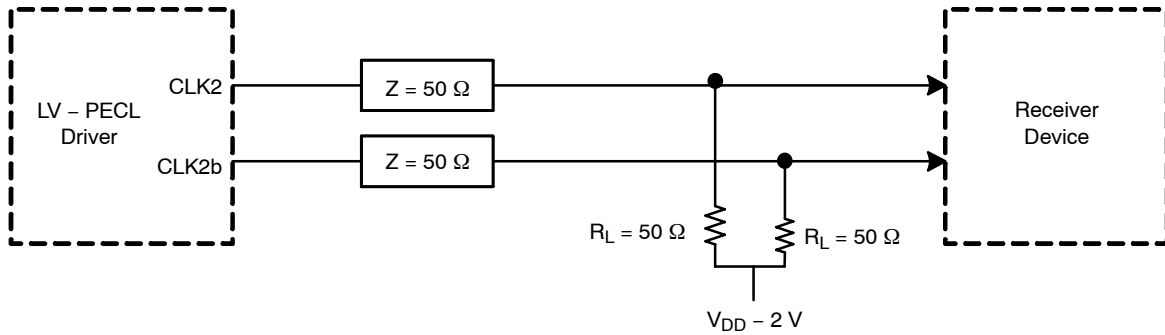

Figure 2. Typical Termination for Output Driver for Device Evaluation
5. Measurement taken with outputs terminated with 50 ohms to $V_{DD} - 2 \text{ V}$. See Figure 2.